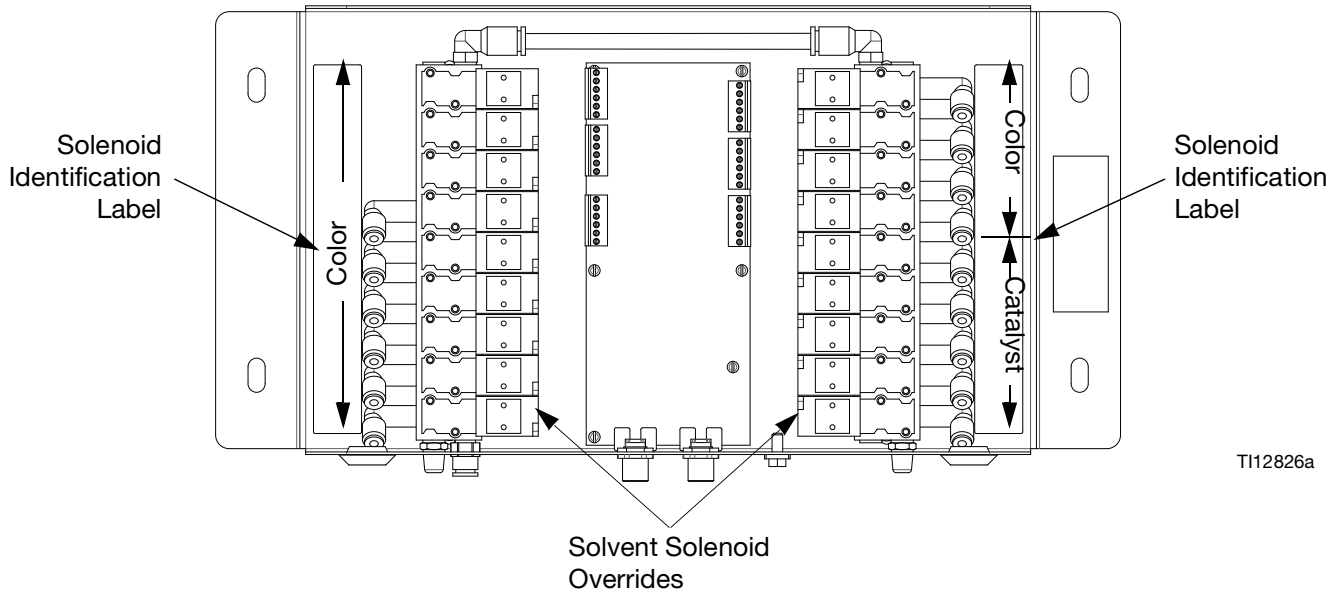

FIG. 3: Color Change Solenoids
4. See FIG. 3. Open the color change module. Using the solenoid identification labels as a guide, press and hold the override button on each color solenoid until flow from the sampling valve stops.
4. See FIG. 3. Open the color change module. Using the solenoid identification labels as a guide, press and hold the override button on each color solenoid until flow from dump valve A stops.
6. See FIG. 3. Using the solenoid identification labels as a guide, press and hold the override button on each catalyst solenoid until flow from dump valve B stops.